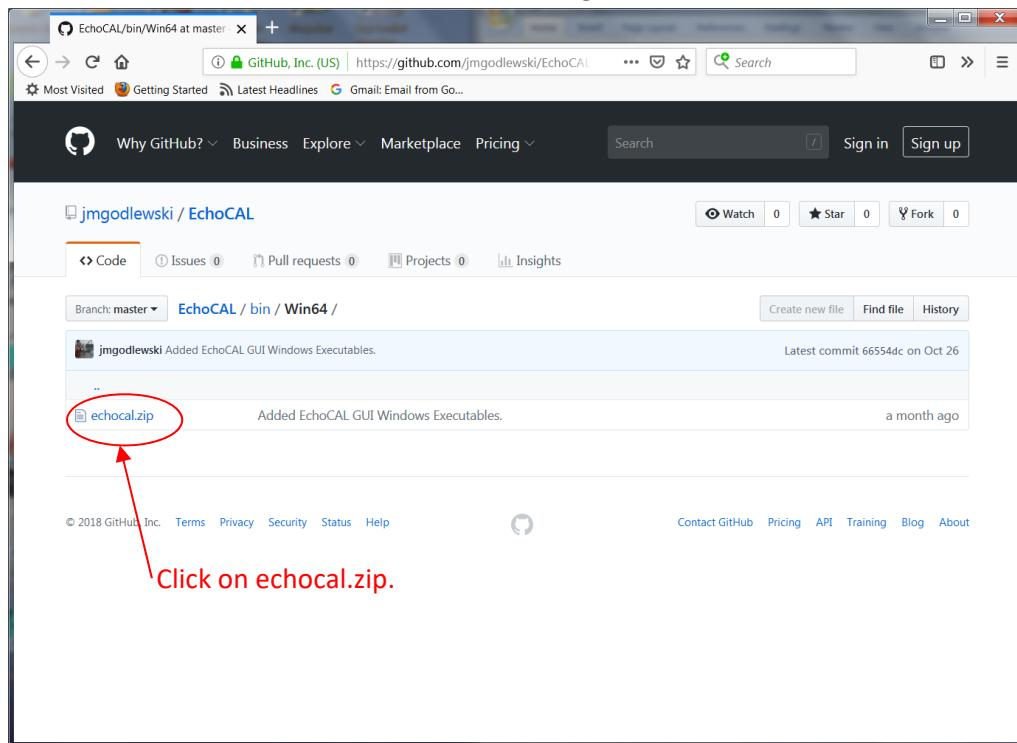

Figure 20: EchoCal GitHub Site: /bin/Win64 Folder
- b. Navigate to the *EchoCal* GitHub site (<https://github.com/jmgodlewski/EchoCAL>) using any web browser, and select the “bin/Win64” folder. (Figure 20)